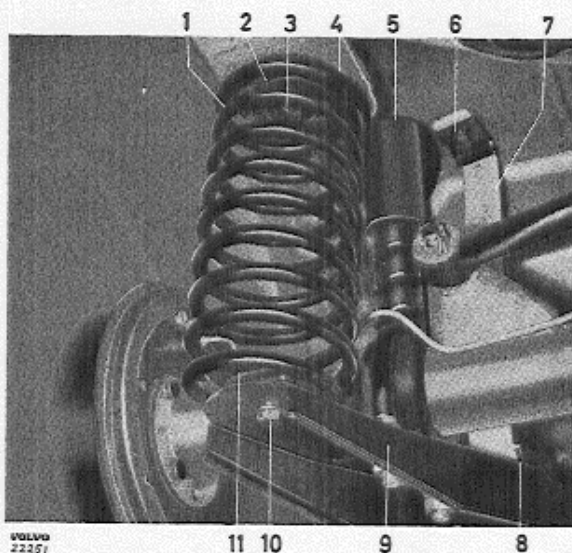

Fig. 3. Rear spring fitted.
3. Disconnect the shock absorbers (5 Fig. 3) from the attachment in the rear axle housing.
4. Disconnect the shock absorber band (7) from its attachment (8) on the axle support arm.
The shock absorbers on the PV 544, 444 are hydraulic, double-acting and telescopic. Bands are fitted between the support arms and the body. These prevent damage to the shock absorbers by limiting wheel travel downwards. Wheel travel upwards is limited by rubber blocks. On early production cars, the bands were fitted behind the springs while on late production cars, they are fitted in front of the springs (7, Fig. 3).